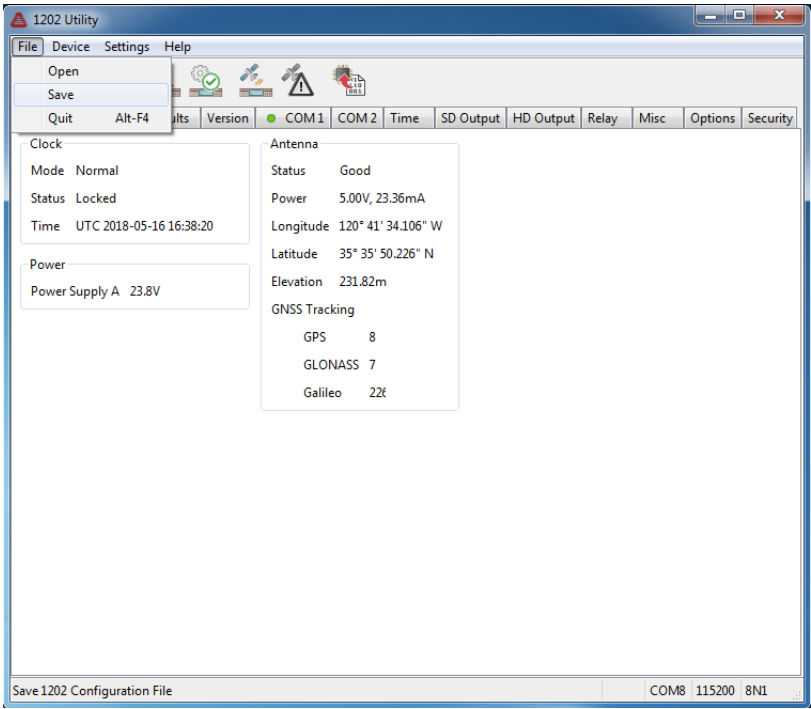

Figure 7.22: Saving a 1202B/C Configuration File
3. Select File > Save to save a copy of the downloaded configuration. See Figure 7.22.